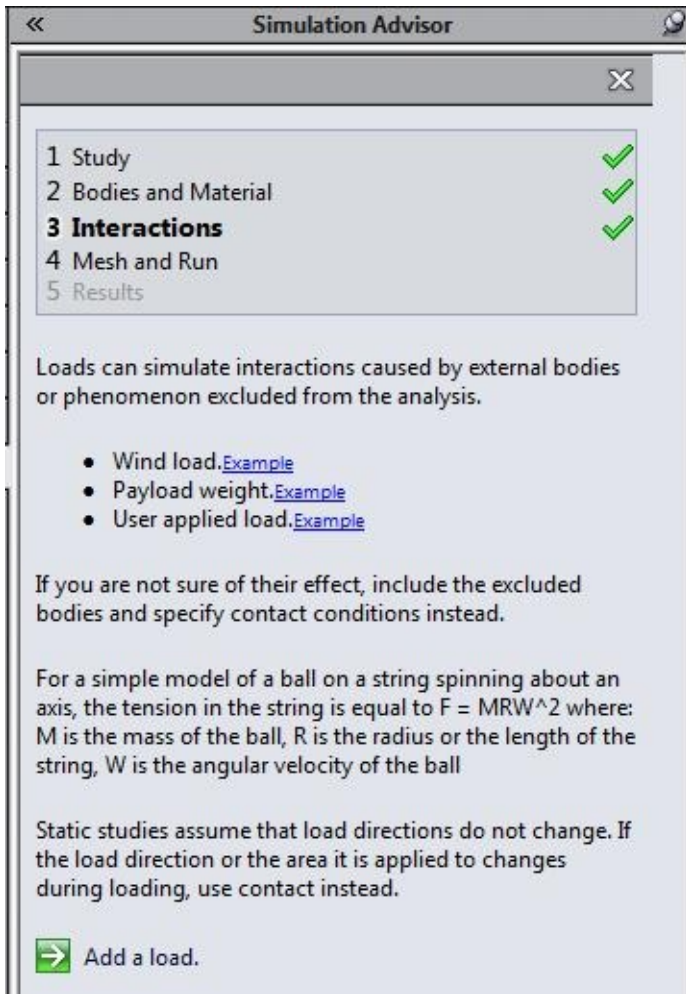

Figure-47. Loads page of Simulation Advisor
- Click on the **External Loads Advisor** button from the **Ribbon**. The loads page of **Simulation Advisor** will be displayed; refer to Figure-47.